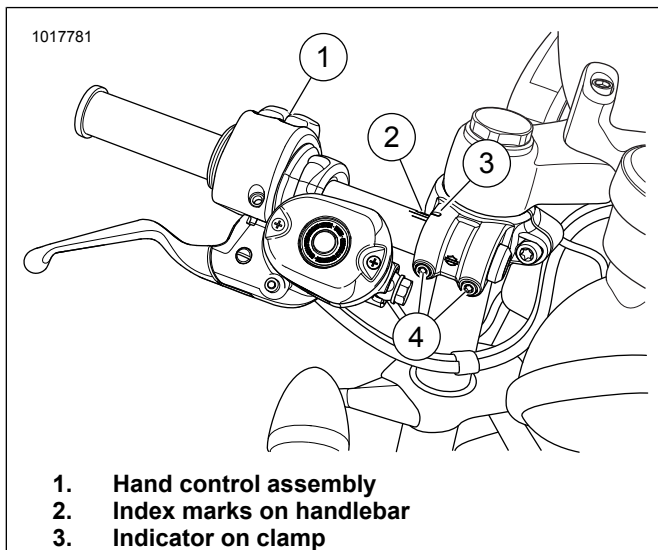

Figure 6. Clip-on handlebar, installed with hand controls
4. See Figure 6. The clip-on handlebars can be rotated slightly if desired.
- Note the alignment of the clip-on index mark(s) (2) to the indicator on the clamp (3).
- Loosen screws (4).
- Tighten screws (4) to: